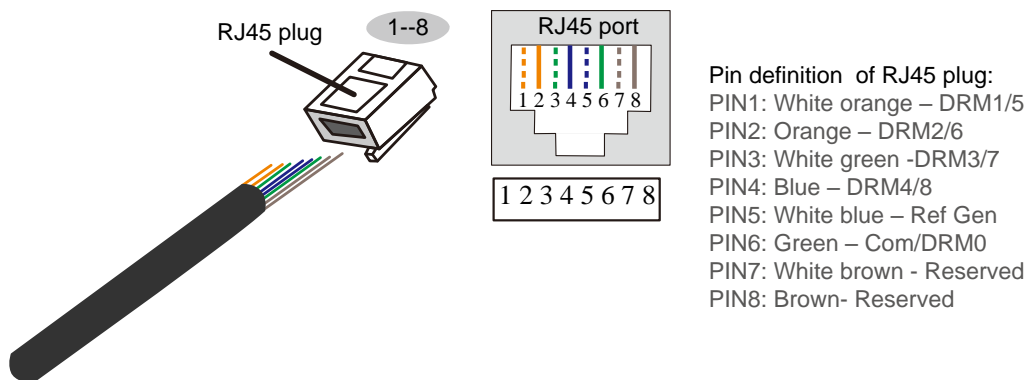

Figure4-20 Pin definition of RJ45 plug
- DRM port is connected with DRM control device. The pin definition of RJ45 plug is as shown in Figure4-20.
- Step 2 Draw DRM signal wire through communication cover and crimp terminals according to Figure4-20, and insert it into DRM port. Connect the other end of DRM signal wire with DRM control device.